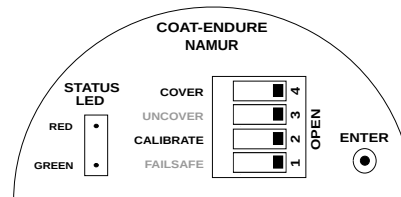

Figure 56: Saving Calibration
- Set the CALIBRATE and COVER switch back to OPEN position as shown in Figure 56.
- Open the housing cover and set the CALIBRATE and COVER switch back to OPEN position as shown in Figure 56.